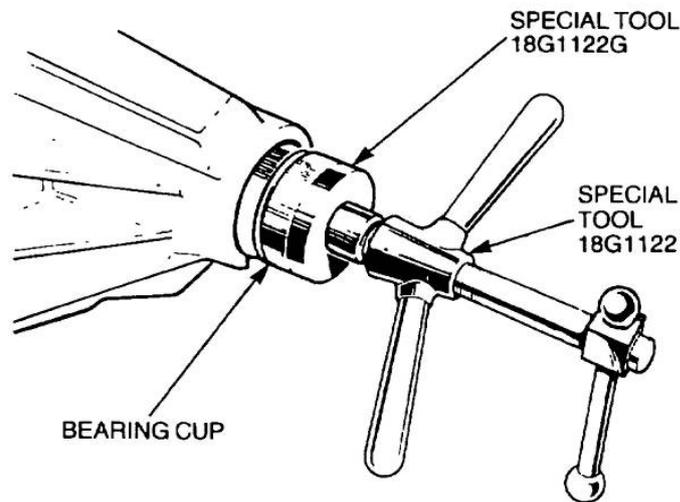

Figure 238 Installation of the Cup Replacing Tool
- b. Position the outer bearing cup replacing tool 18G1122G and the outer bearing cup on the press tool 18G1122. Locate the assembly in the axle case pinion bearing nose (Figure 238).